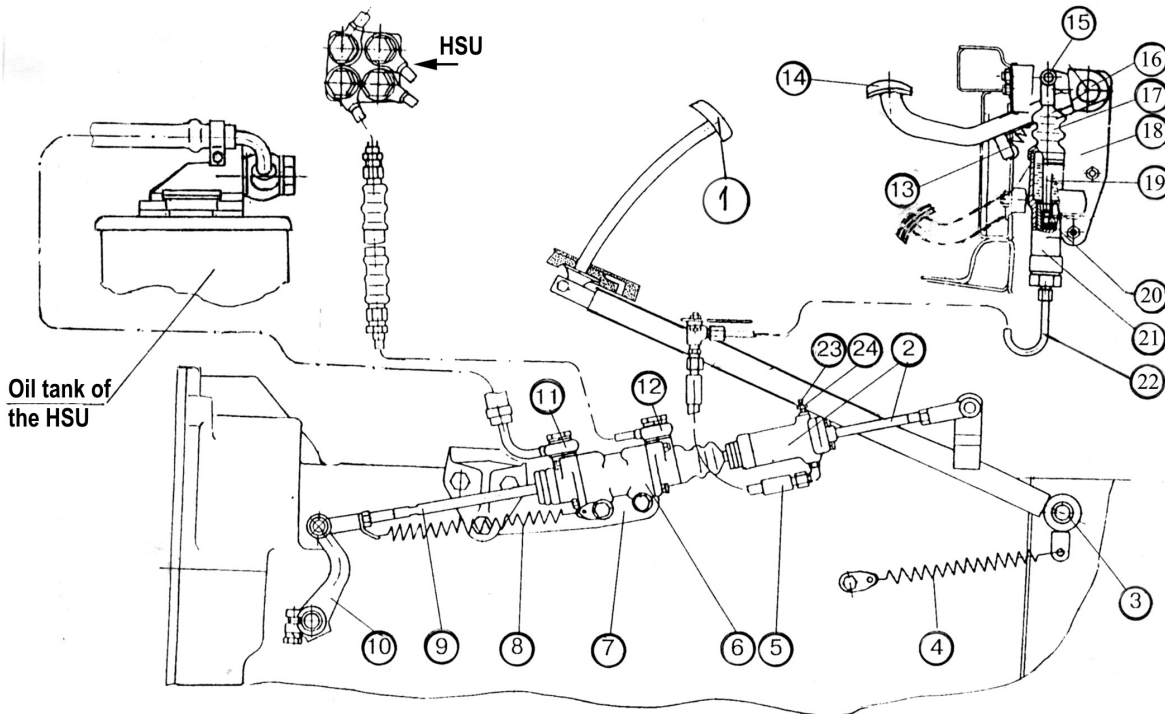

Fig. E-11a. Clutch control of a reversible tractor:
The clutch is disengaged by stepping on the pedal (1), Fig. E-11a acting upon the operating cylinder (2) of the hydraulic booster (6) and then upon the rod (9) and lever (10) of the shaft of the clutch disengagement forks. The hydraulic booster reduces the efforts needed to press the pedal when disengaging the clutch; also, it controls the travel of the lever (10) in proportion to that of the pedal.